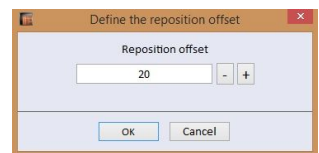

Fig. 133 - Editing reposition offset
- **‘Reposition offset’** - function available after selecting the movable elements (shelves, partitions, rod, etc.). It opens a window **‘Define the reposition offset’** and allows you to change the amount by which elements move according to your needs (Fig. 133 above).